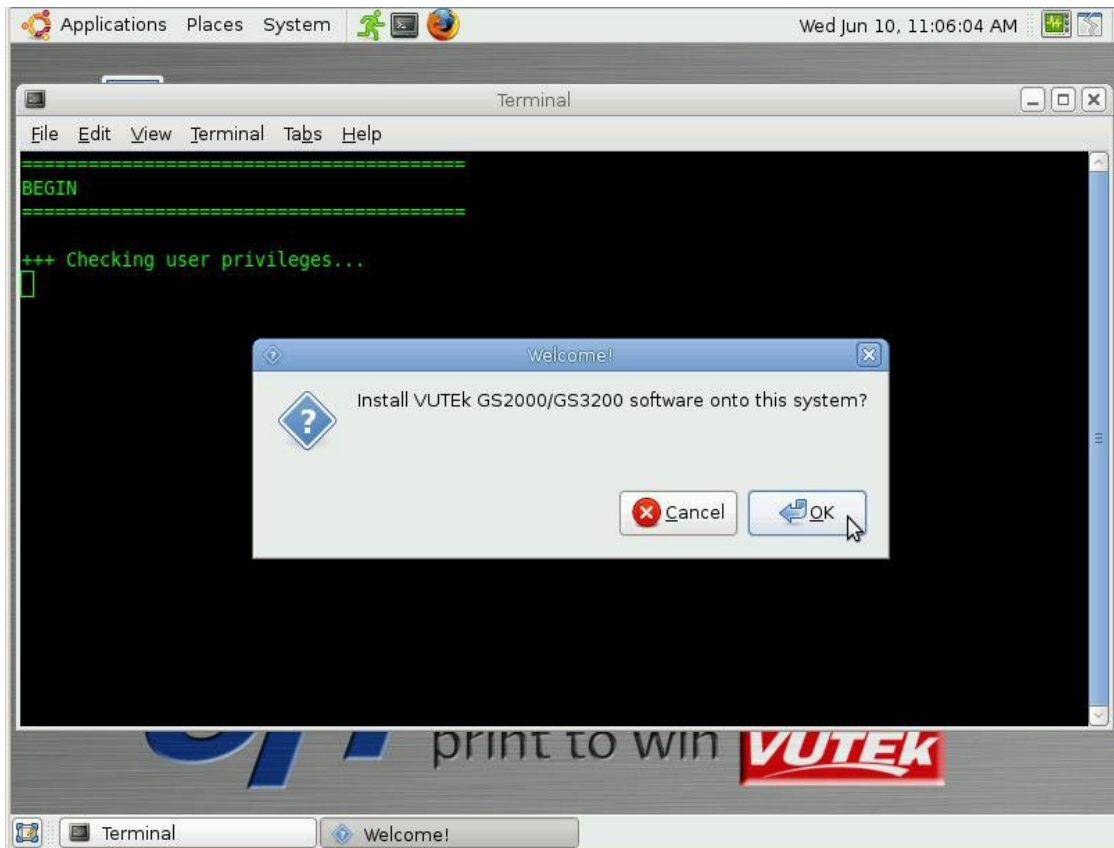

Figure 18: Confirmation Dialog Box
5. After double-clicking on GS2000/GS3200 Installer icon, installer will run and prompt for confirmation to begin installation as shown in **Figure 18**.